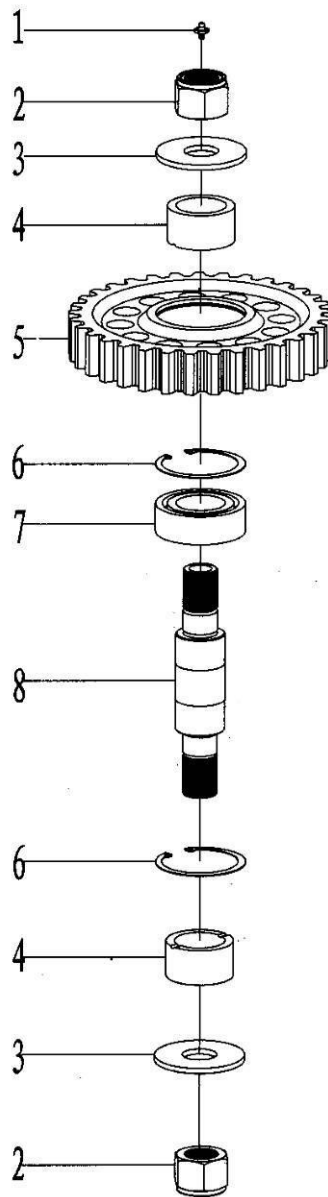

Fig 6
7.6 Assembly of big idle gear (Fig 6. Table 6)